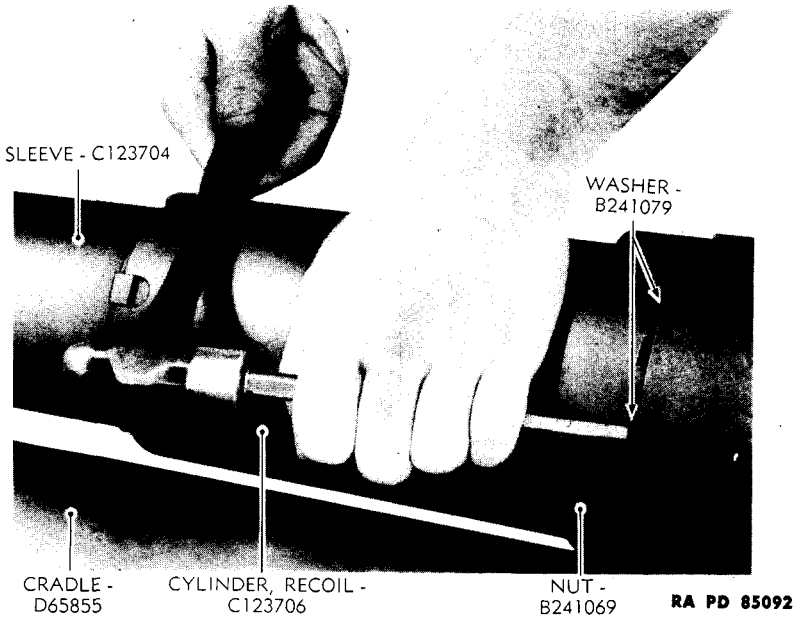
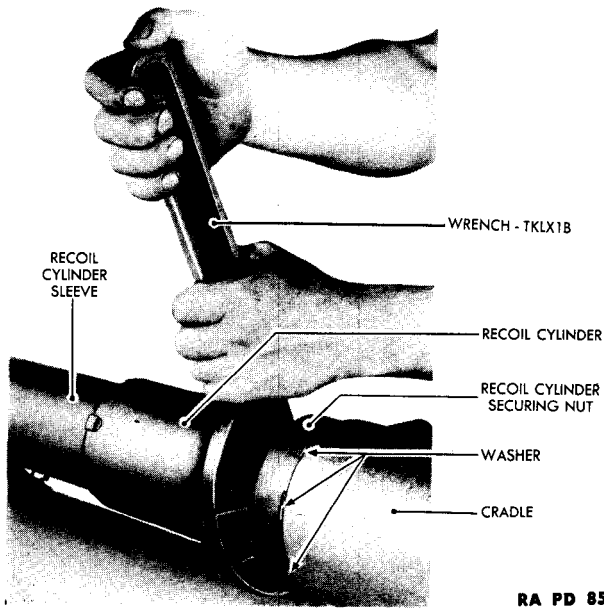

Figure 60 – Driving Fingers of Lock Washer from Recoil Cylinder Securing Nut Slots
Figure 62 – Unscrewing Securing Nut from Recoil Cylinder
c. Loosen Securing Nut. Drive fingers of washer out of slots provided in recoil cylinder securing nut (fig. 60). Unscrew securing nut from threads on recoil cylinder (wrench TKLX1B) (fig. 62).